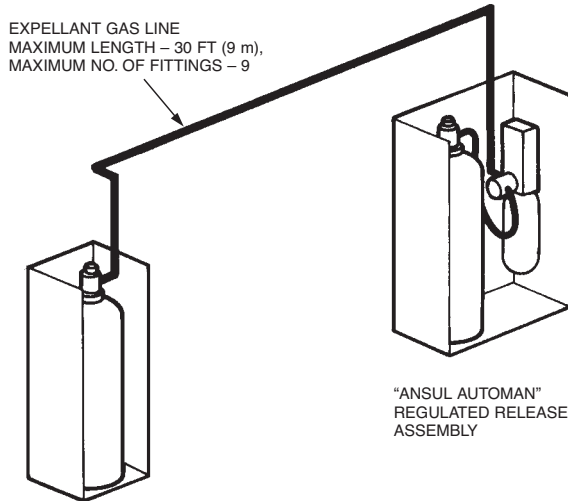

FIGURE 103
- ▶ 1. The expellant gas line is installed from the regulated release mechanism in double, three, and multiple-tank systems, and from the regulated actuator assembly in multiple-tank systems. The expellant gas line is the piping and/or hose between the regulator and the tank-enclosure/tank-bracket assembly. The total length of the expellant gas line from the regulated release mechanism or each regulated actuator assembly **must not exceed 30 ft (9 m)** when using a “double-tank” cartridge, an LT-A-101-30 Cartridge, or a 101-30 Cartridge. See Figures 103 and 104.